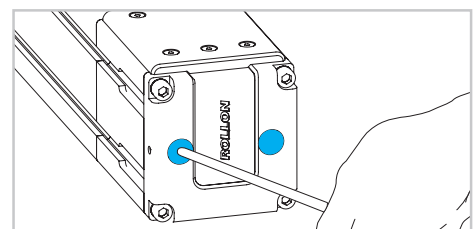

Fig. 9
- 9) Remove the screw of the belt tensioner (Fig.9).